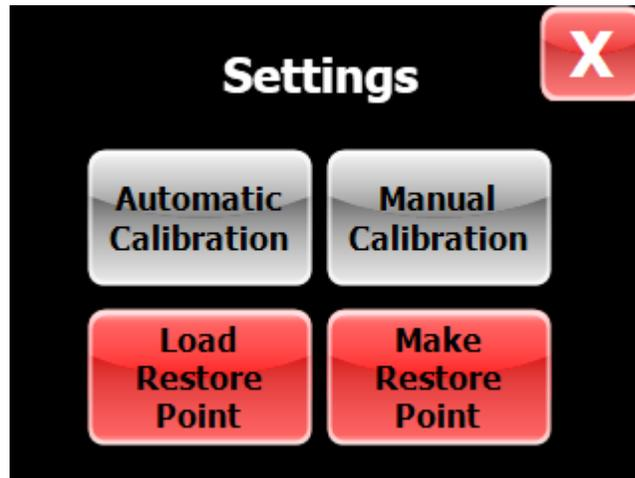

Fig. 4
-  Settings. Touch to modify device settings. See Fig. 4